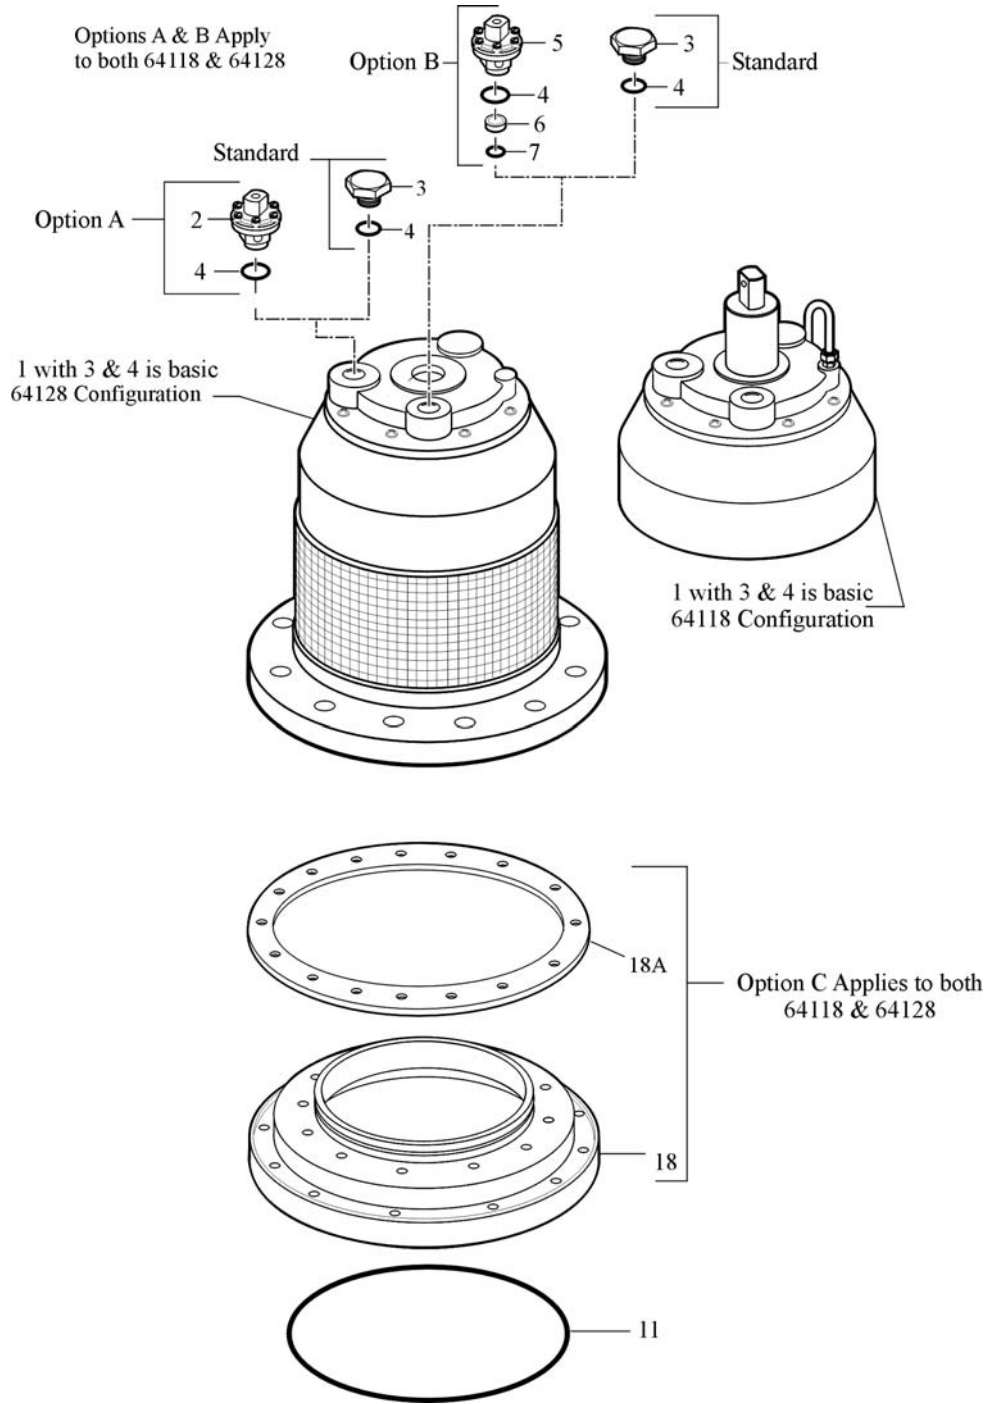

FIGURE 1
| 4.1 | Refer to Figures 1, 2, 3 or 4 for exploded views of the unit. | 4.10.2 | Remove and discard O-ring (37) using a soft pick that will not damage the bonnet. |
Table 1.0 tabulates the parts and sub-assemblies comprising the various versions of both the 64128 and 64118 Valves with all options. The item numbers of the table are keyed to the exploded views of the unit diagrammed in Figures 1, 2 or 3.